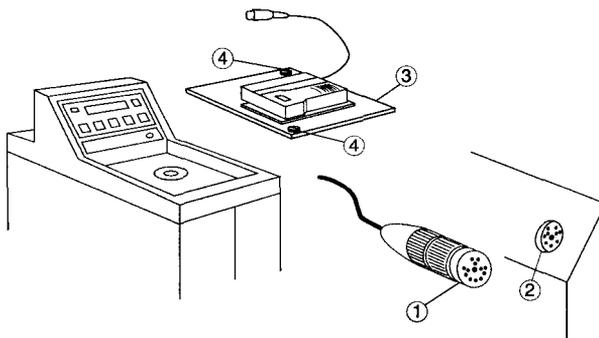

Figure 1. Attaching the camera module.
**Step 2:** Align the module inside the recessed area on top of the PCR II Plus. The module plate fits tightly on the two registration pins on the film recorder, and it can only be oriented in one direction. See Figure 1.
①-Module cable connector locking ring,
②-Module cable.
Step 2: Find the two thumb screws on the opposite corners of the module plate—see Figure 1. Turn the screws counterclockwise until they are loose. This releases the camera module assembly from the PCR II Plus.